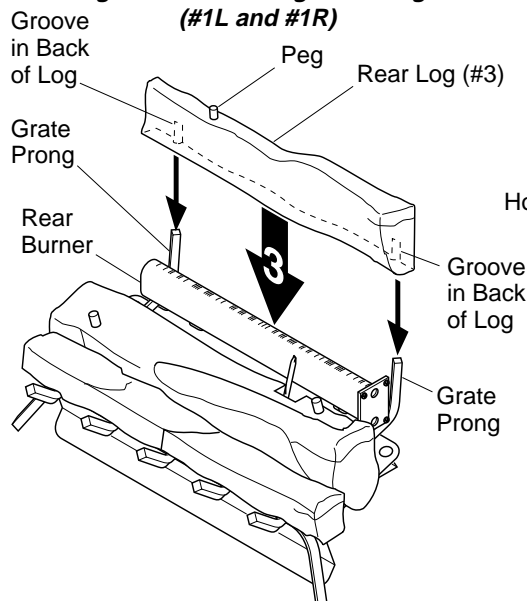

Figure 25 - Installing Rear Log (#3)
3. Slide the grooves in the back of the rear log (#3) against the rear grate prongs. Make sure the peg on the log is on top (see Figure 25).